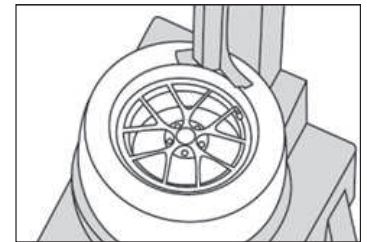

Figure 2
2. Remove the tire: the valve faces the mounting arm in the one o'clock direction when removing the tire (Figure 2).